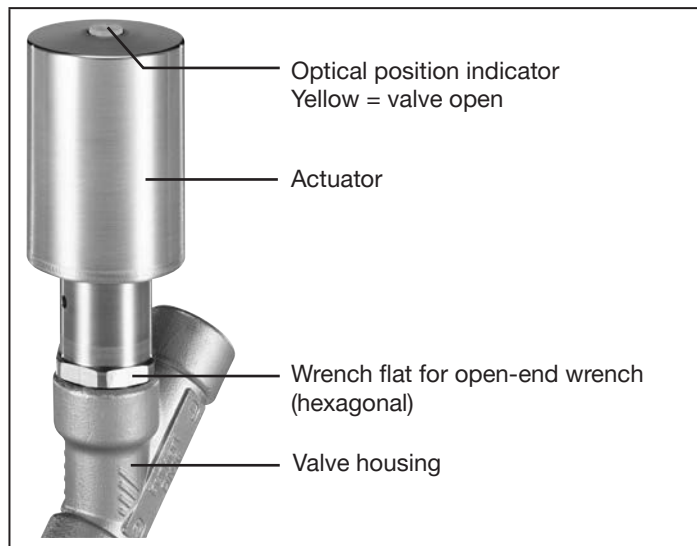

Fig. 6: Removing the actuator
- When valve is in open position, remove actuator from the valve housing using an open-end wrench (WAF 22) (see "Fig. 6").